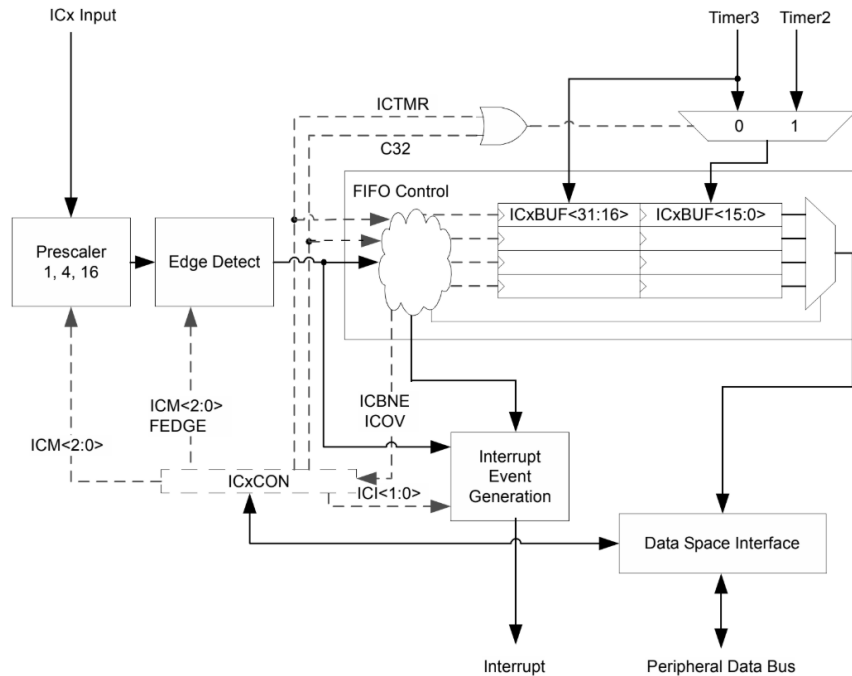

Figure 7: Input Capture Subsystem Block Diagram
The Family Reference Manual Section 15 on Input Capture details the operation and registers involved (see Fig. 7). There are relatively few input capture pins available; in this lab, we will be using IC3 which can be slaved to either Timer2 or Timer3. For the lab and this manual we will assume it is slaved to Timer2.
Using Fig. 7 as a reference, when the IC3 pin changes state, assuming that FEDGE is set to capture that edge, then Timer2 (TMR2) will be copied into the IC3BUF (the FIFO control makes sure that the data is appended rather than overwritten). The value can be read in the interrupt by reading IC3BUF.
- Figure 7 courtesy of Analog Devices Corporation